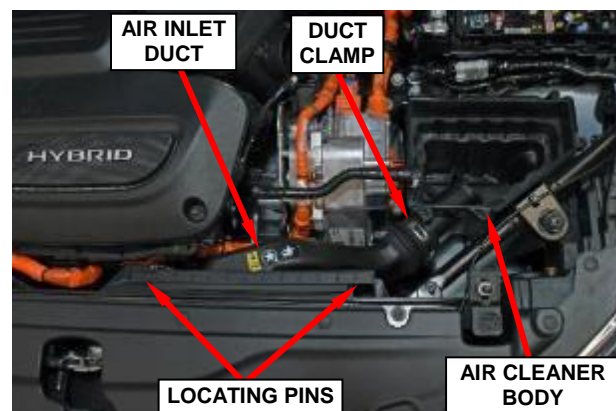

Figure 12 – Air Cleaner Body
19. Loosen the duct clamp and pull the air inlet duct straight up to disengage the locating pins from the rubber mount sockets (Figure 12).
20. Disengage the air cleaner body locating pins from the rubber mount sockets then remove and save the air cleaner body (Figure 12).